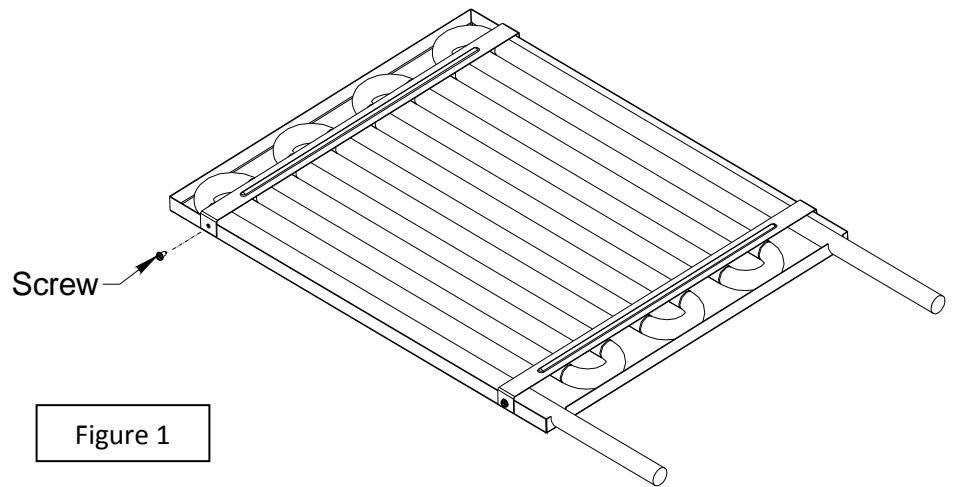
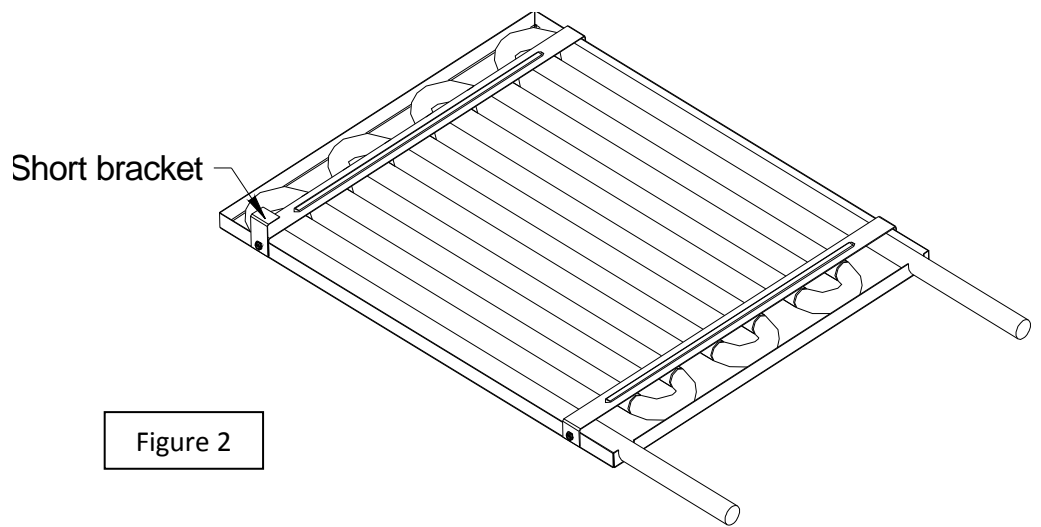

Figure 1
Figure 2
Step 1: Remove the screw located on the left of the assembly as shown on figure 1. Keep this screw to install the "short" bracket supplied in the hardware kit as per figure 2.